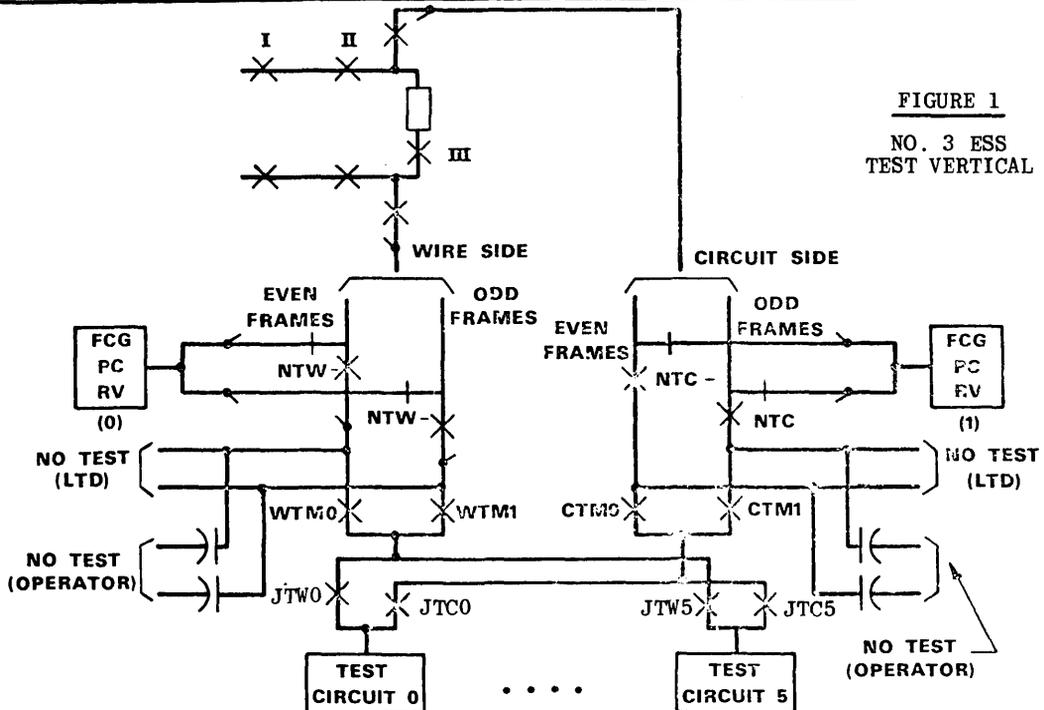

FIGURE 1
- 4.12 The test circuits used to test junctors (see paragraph 1.12) will be accessed via the test vertical. See Figure 1 for a general diagram of the No. 3 ESS Test Vertical.